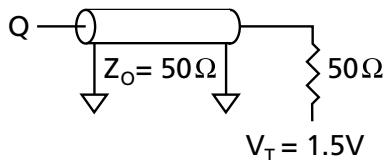
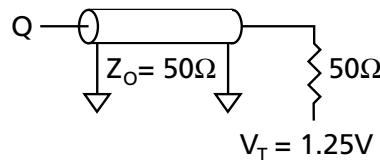

Figure 1
Figure 3
1. Test conditions as specified with the output loading shown in Figure 1 for 3.3V I/O ($V_{DDQ} = +3.3\text{V} \pm 0.3\text{V}/-0.165\text{V}$) and Figure 3 for 2.5V I/O ($V_{DDQ} = +2.5\text{V} \pm 0.4\text{V}/-0.125\text{V}$) unless otherwise noted.
Output load	See Figures 1 and 2
Output load	See Figures 3 and 4